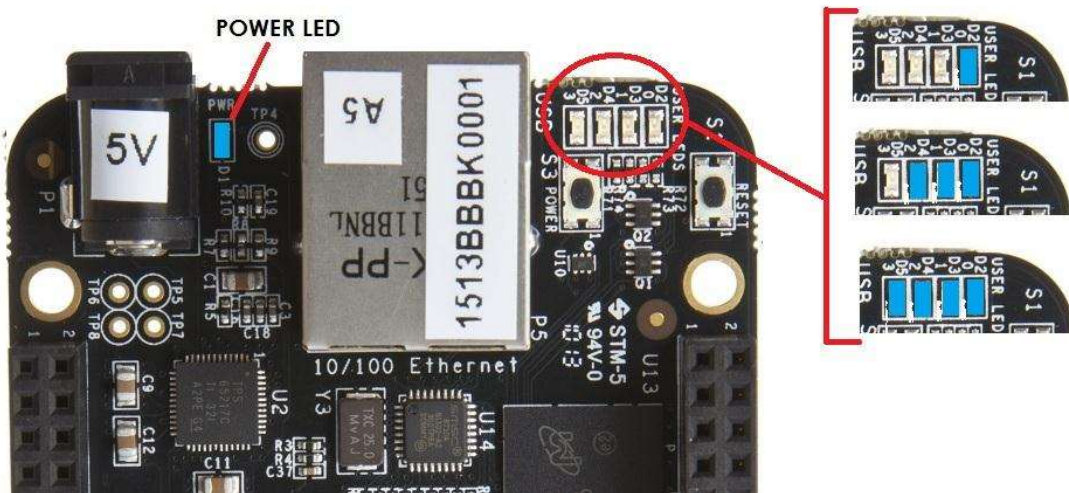

**Figure 14. Connect microHDMI Cable to the Board**
5. The cable needed to connect to your display is a microHDMI to HDMI. Connect the microHDMI connector end to the board at this time. The connector is on the bottom side of the board as shown in **Figure 14** below.